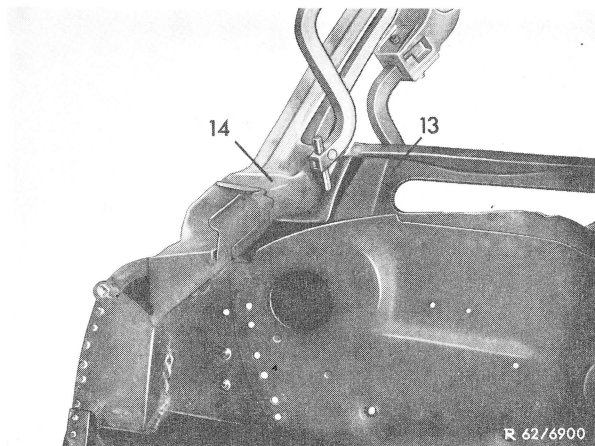

Figure 6
**22** Weld side member (11) to front wall (1).
**23** Connect floor plate (12) to front wall (1) and tunnel (9) to front wall by stringwelding.
**25** Spotweld center piece under windshield inside (13) to front wall pillar (14) (Fig. 6).